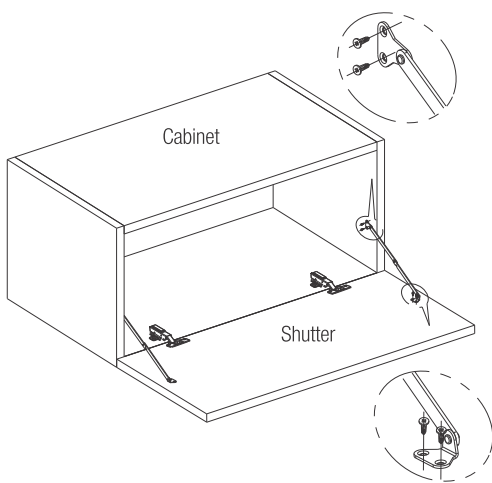

Fig. 2
2. Fix the Stays to the inner face of the shutter and inner side face of the cabinet as shown in Fig.2.